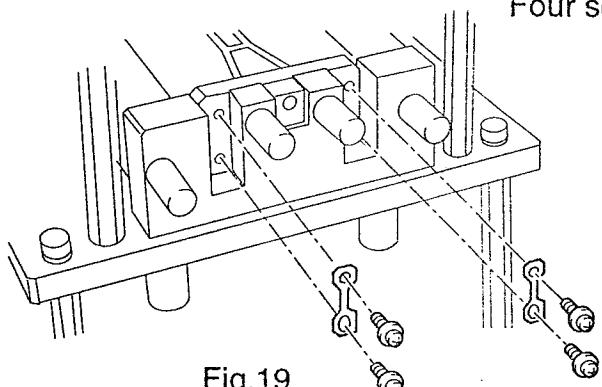

Fig.19
Step 2. Attach the force motor to the alignment fixture (at the fulcrum flexure support) and install the fulcrum flexures (Fig 19, 20, 21 & 22).